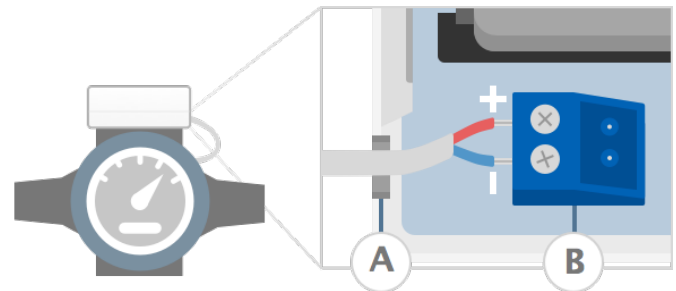

Figure 2 Connect Transceiver to Meter
5. Place the Degson Connector back onto the Transceiver board as shown in Figure 2.
Note: Ensure the wiring enters through the wire slot (Figure 2-A), allowing the top Transceiver plastic cover to be closed completely.